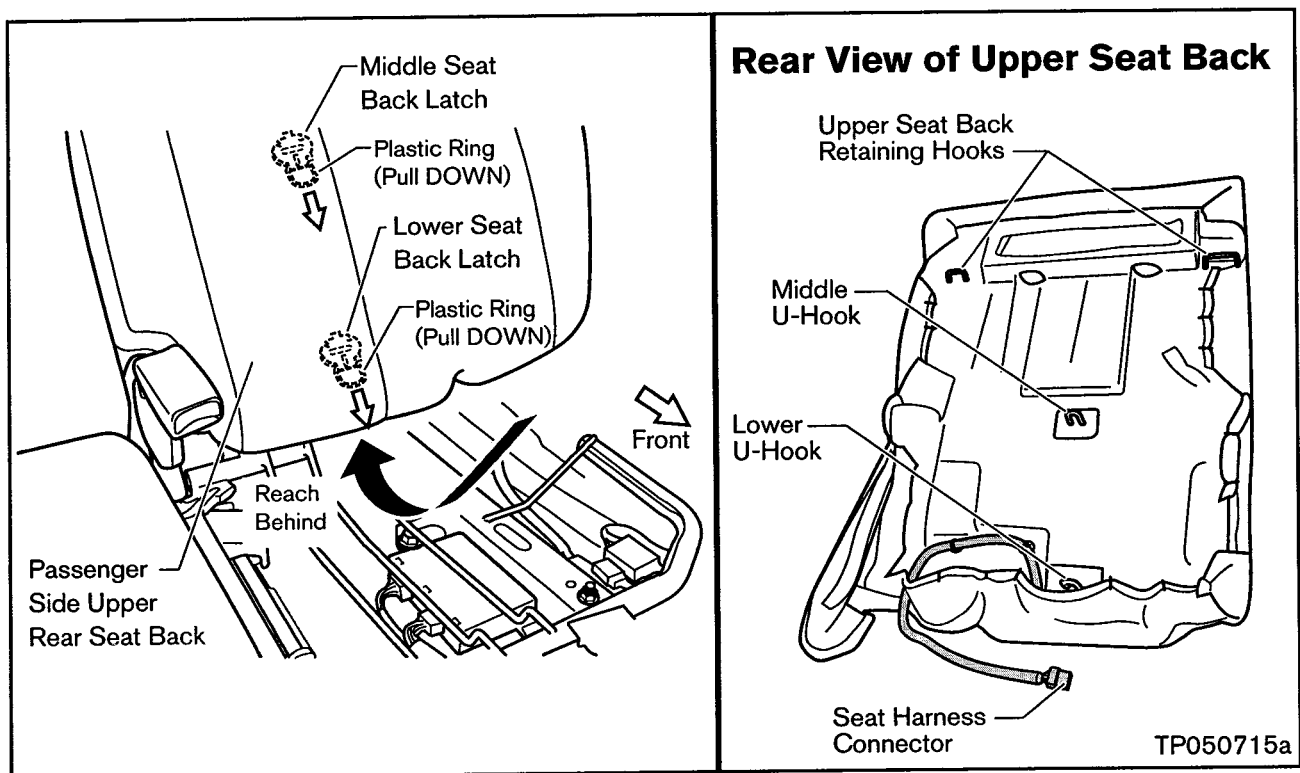

Figure 7
- d. Reach UP behind the center bottom of the Seat Back and pull DOWN on the plastic ring to release the lower U-Hook from the Lower Seat Back Latch (see Figure 7). Then reach UP further to release the middle U-Hook from the Middle Seat Back Latch (see Figure 7).